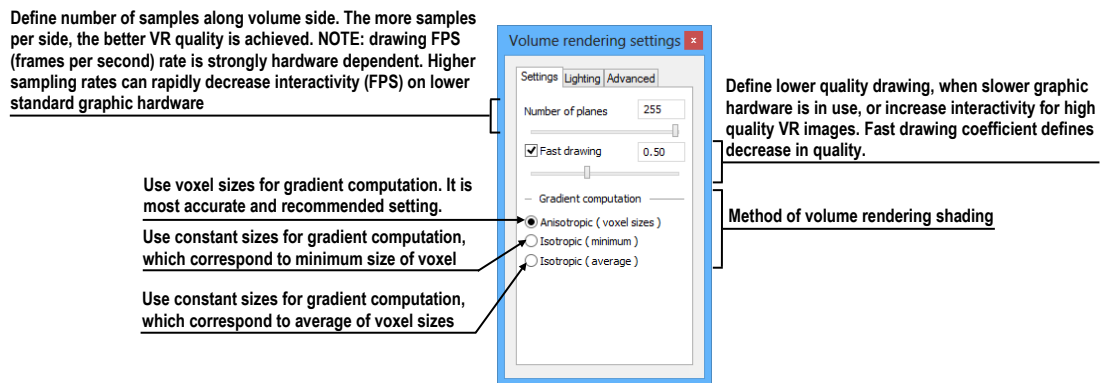

Figure 322 - Volume rendering settings, the first tab
- basic volume rendering quality on the first tab (see Figure 322)